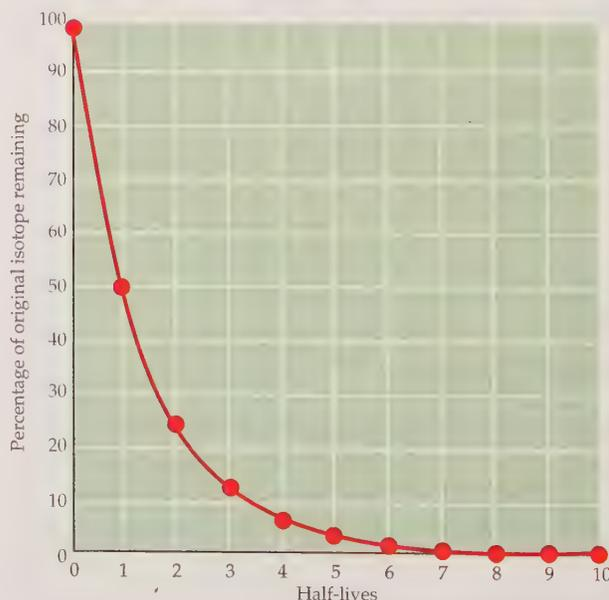

Figure 5.2 Graphical representation of the disappearance of a radioisotope.
If we note two general characteristics of half-lives we can understand a bit more clearly the problems associated with nuclear waste disposal. First, regardless of the actual numerical value of a half-life, we can't consider any particular radioisotope to have vanished (for all practical purposes) until at least 10 half-lives have passed. As we can see from the data in Table 5.4 and Figure 5.2, half (50%)
■ Referring to Table 5.3, we find that the half-life of Ba-140 is 12.8 days and the half-life of Kr-93 is 1.3 seconds. We'll also refer to Table 5.4 and Figure 5.2, which show the percentage of a radioisotope that remains after successive half-lives.